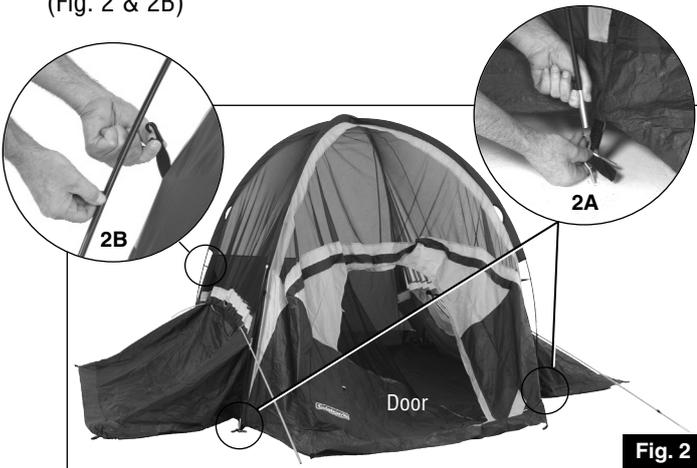

Fig. 2
5. Insert one end of each black Main Pole (located over front door) into pins in inside front corners of tent. (Fig. 2 & 2A)
6. Go to opposite end of each pole and gradually apply pressure to the pole forming an arch. Insert the pin into the pole end at the the back of the tent. (Fig. 2 & 2A)
7. Attach frame clips along edges of tent to black Main Poles (Fig. 2 & 2B)